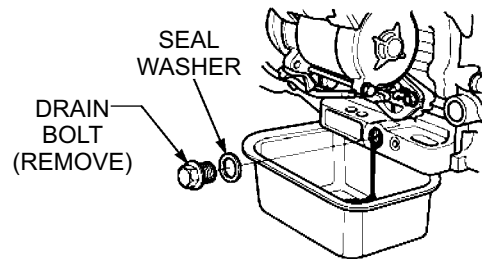

Figure 16. Draining Engine Oil
1. Drain the engine oil when the oil is warm as shown in Figure 16.